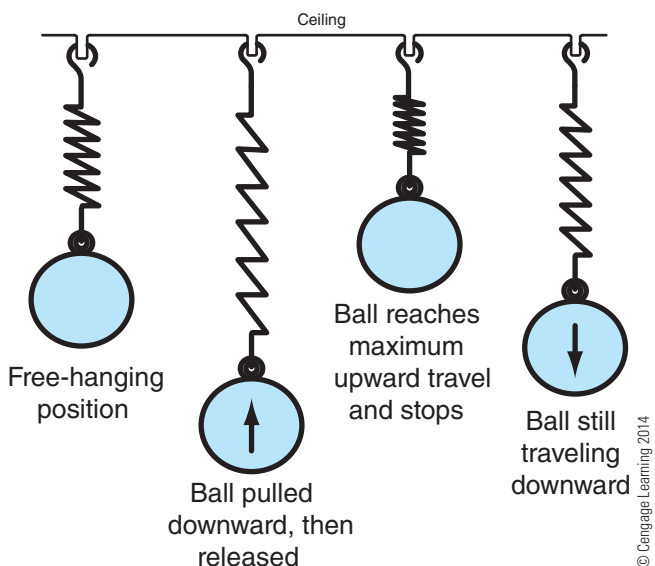

Figure 7-3 Lead ball pulled downward from rest position to stretch spring more than gravity alone and released.
If a heavy lead ball were attached from a coil spring that was hung from the ceiling, gravity would cause the ball to extend the coil spring from its natural or free length, as shown in **Figure 7-3**. Springs and lead balls may seem out of place in a study of electricity, but such a spring-mass system can be used to describe alternating current (AC).
Because the ball is initially just suspended from the spring, there is no motion. To start the motion, it is necessary either to lift the ball upward or to pull the ball downward and release. In **Figure 7-3**, the ball is pulled downward 6 in. (15 cm) and then released. The spring tension due to the extended spring causes the ball to travel upward, in opposition to gravity. At some point, the ball will reach a height where it is not traveling downward or upward, which is the maximum height the ball will reach. The ball will then begin to travel downward because of gravity. The ball will pass through the original free-hanging or rest position as the motion of the ball causes the spring to extend. The ball will continue downward until it reaches a point that is slightly less than 6 in. below the initial rest point. The ball will then stop traveling downward and reverse directions to travel upward again because of the spring tension.